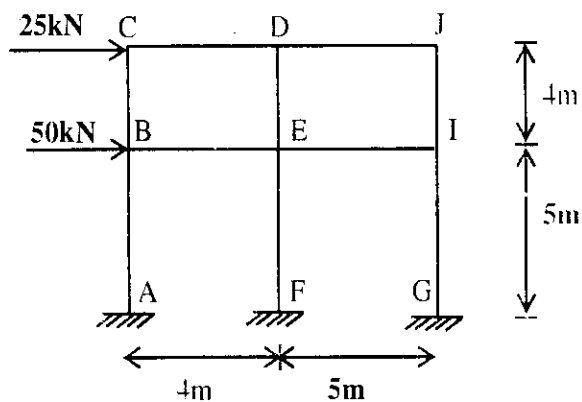

Fig 12
Q.5 Solve the building frame shown in Fig 12 using portal method. [16]